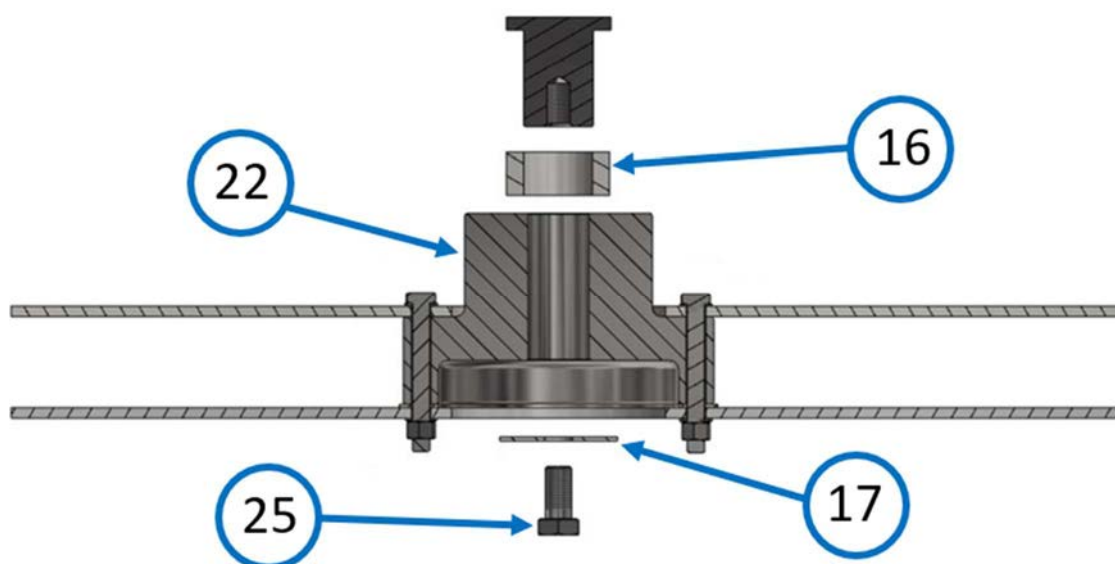
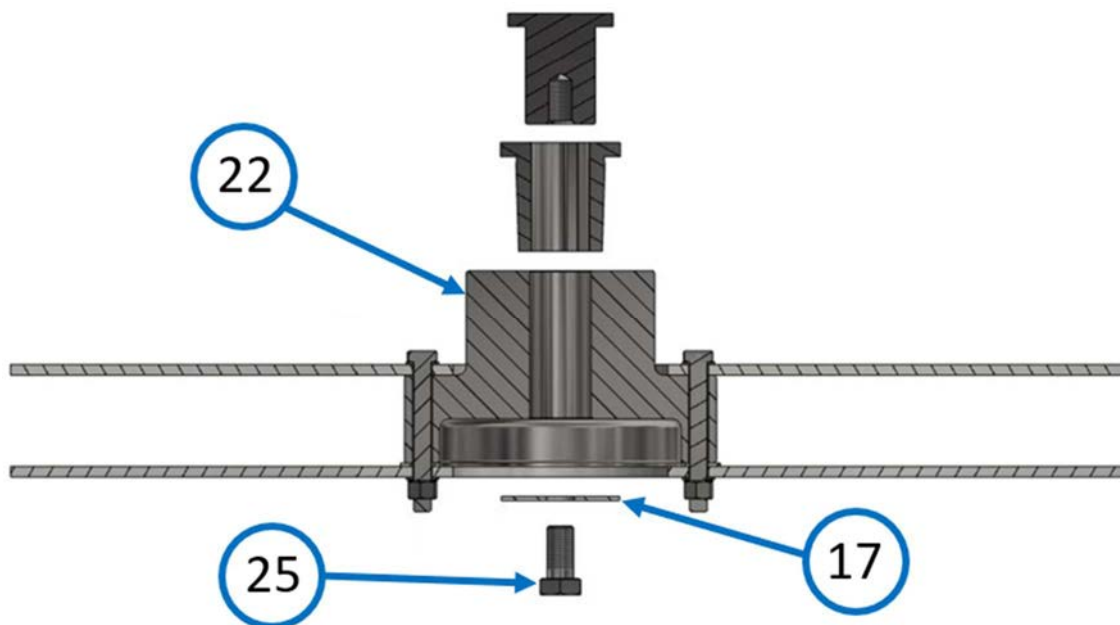

Figure 2.15: installation of hub with internal hub boss and cylindrical bore
Figure 2.16: installation of hub with internal hub boss and bushing
COFIMCO can supply two different types of hub with internal hub boss: with cylindrical bore (see figure 2.15) or with cylindrical bore for bush installation (see figure 2.16).
- 1) **Hub with internal hub boss with cylindrical bore:** anchored directly to the shaft that transmits the motion; for the procedure please refer to figure 2.15.
Put the washer [17] on the flange and tighten the bolt [25] to the shaft, as shown in figure 2.15.
2) **Hub with internal hub boss and bushing:** to fasten it refers to figure 2.16.